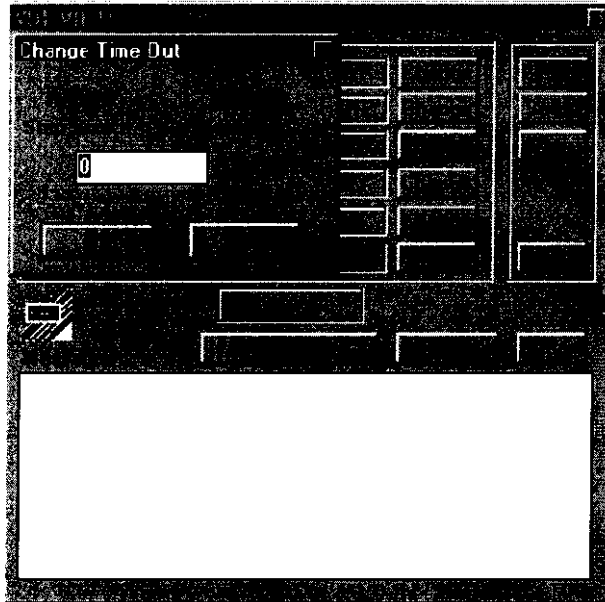

Fig 13 Setting the Transmitter's Time Out
- Check that the Time Out screen is superimposed (see Fig 13).
- Using the mouse, click in the box showing the current number of seconds (Fig 13 shows 0 seconds). Delete the current value and enter the required value from the PC's keyboard.